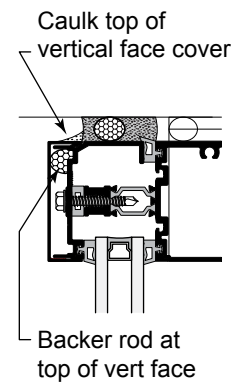

Fig. 51.4
K. Seal the tops of all vertical face covers as shown in **Fig 51.4**..